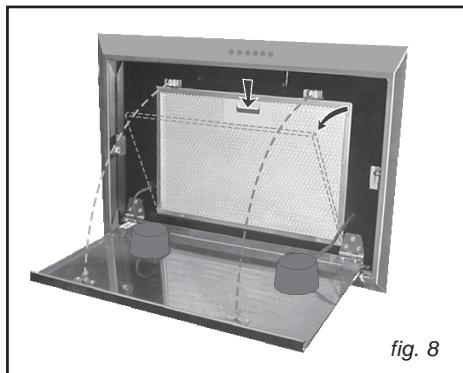

fig. 8
• Removing the grease filter (fig. 8)
Open the metal panel by turning it outwards (Fig.8); Remove the grease filter by pushing the catch and turning it outwards (Fig.8).